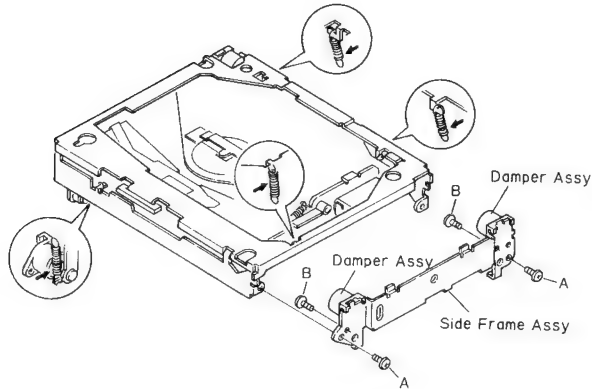

Fig. 11
4. Remove the four springs indicated by arrow. (Fig. 11)
5. Remove the two screws A, and then remove the side frame assy.(Fig. 11)
6. Remove the two screw B, and then remove the damper assy.(Fig. 11)